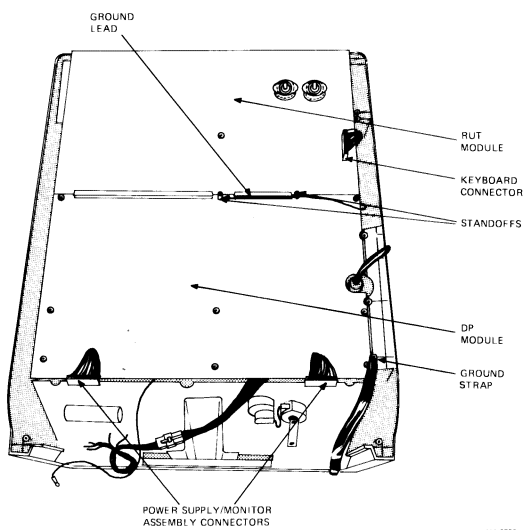

Figure 3-6 Removing and Replacing the RUT and DP Modules
### 3.6 REMOVING AND REPLACING THE RUT AND DP MODULES (Figure 3-6)
4. If the terminal is equipped with anti-static ground straps, remove the 11/32 nut that secures the ground strap nearest the power supply/monitor assembly (Figure 3-6) and remove the ground strap. *Replace this nut before proceeding to the next step.*